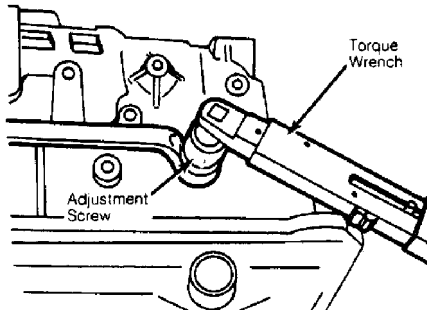

Fig. 1: Adjusting Second Brake Band
1) Adjust brake band with transmission in a horizontal position only. Loosen adjustment screw lock nut. Tighten brake band adjustment screw to 90 INCH lbs. (10 N.m). See Fig. 1.